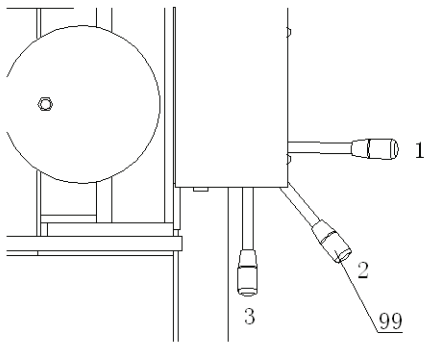

Figure 8
Turn the handle lever of selector valve to position 2. (refer to fig. 8)
Turn the handle lever (99) of socket valve to position 3 (refer to fig 8), and check if the ram is working properly; If the ram working properly, air purge is finished, if not, repeat the process 15.1.1~15.1.2.
Turn the handle lever (99) of socket valve to position 3 (refer to fig. 8), and check if the ram is working properly; If the ram is working properly, air purge is finished, if not, repeat the process 15.2.1~15.2.2.
Turn the handle lever (99) of selector valve to position 2 (fig.8), then depress the air foot valve (P54), keeping the air motor working no less than two minutes.
Turn the handle lever (99) to position 3 (fig. 8), then depress the air foot valve (54), keeping the air motor working and check if the ram is working properly. If the ram is working properly, air purge is finished, if not, repeat the process 15.3.1~15.3.2.
Turn the handle lever (99) of socket valve to position 3. (fig. 8)
Turn the handle lever (99) of socket valve to position 1. (fig. 8)
Turn the handle lever (99) of selector valve to position 3, then depress the air foot valve (P54), both air motors will operate simultaneously, and the piston rod will extend quickly. When the serrated saddle gets close to the work piece, change to manual operation. (fig. 8 and 9)